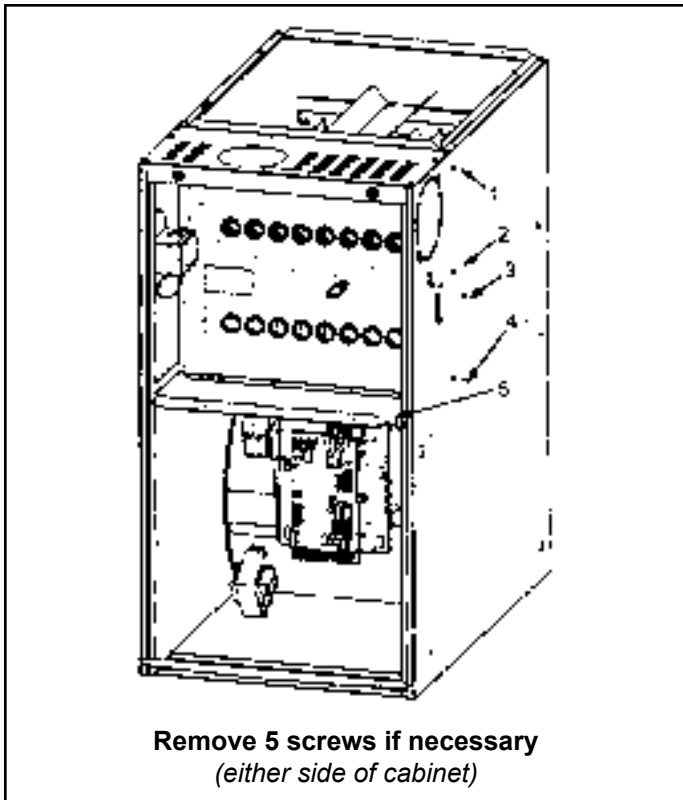

Figure 48.
10. Remove heat exchanger. It may be necessary to spread cabinet side to allow more room. If so, remove five screws from the left side or right side of cabinet. See Figure 48.